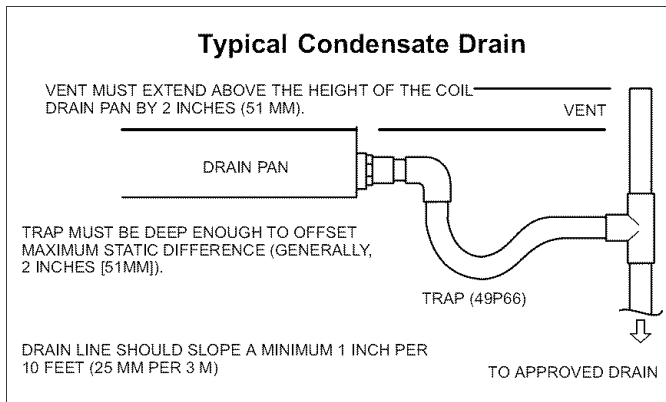

Figure 3
Connect main condensate drain and route downward to an open drain or sump. Do not connect drain to a closed waste system. See figure 3 for typical condensate trap configuration.
- An open vent in the drain line, as illustrated in figure 3, should be used to overcome line length, friction and static pressure.
- Drains should be constructed in a manner to facilitate future cleaning and not interfere with filter access as illustrated in figure 3.